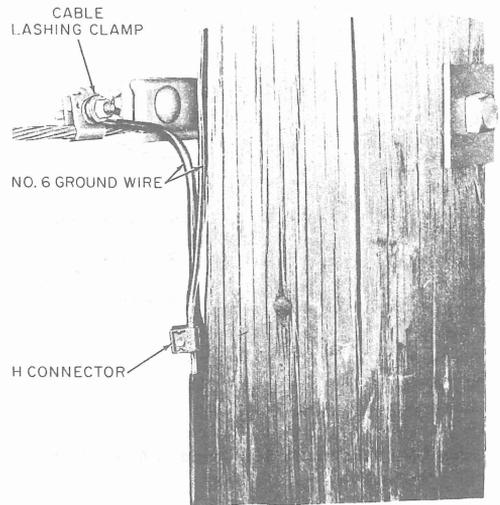

Fig. 22—Permanent Ground Attachment After Strand Is Tensioned
4.09 After the strand has been tensioned, make permanent ground attachments to the vertical ground of a power system multigrounded neutral as shown in Fig. 22. Points of attachment should be specified on the work print.